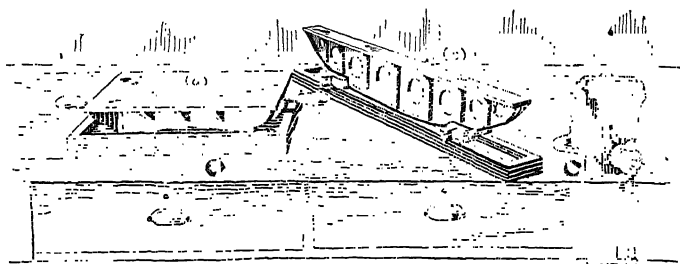

FIG. 235.
**270. Tools Used for Scraping a Flat Surface.**—To produce an accurate flat bearing surface the “high spots,” although they are only two or three thousandths of an inch high, must be located and scraped off. The tools used for locating the high spots and for otherwise gauging the shape and accuracy are special gauge plates as for the ways of a lathe or a dovetail slide; surface plates (*a*, Fig. 235), which are made in a variety of shapes and sizes; and iron straight edges (*b*, Fig. 235), which are practically long narrow surface plates. These plates are scientifically designed to retain their shape. They are very expensive and should be handled and used with the greatest care.